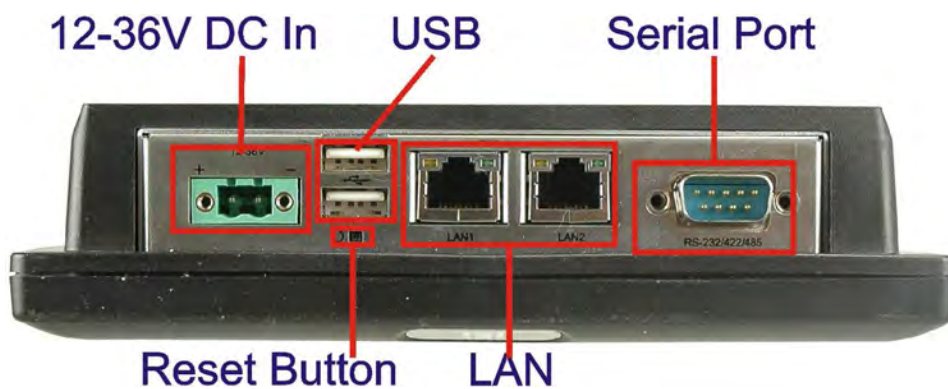

Figure 4-2: IOVU-570M Peripheral Connectors
- CN Location:** See Figure 4-2